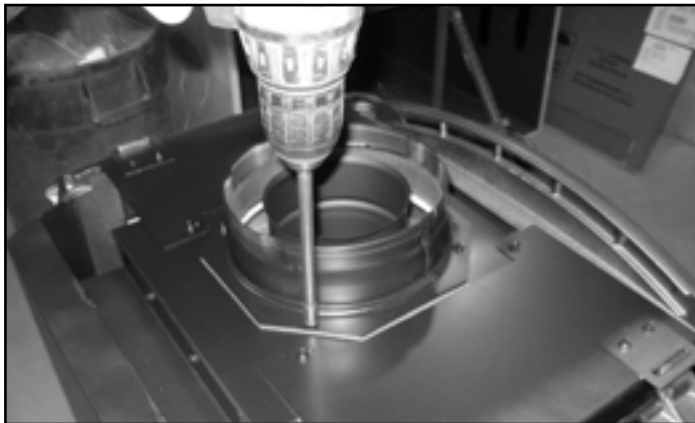

Figure 2.
2. Remove starting collar and gasket by removing 4 screws. See Figure 2. Save the screws. (If gasket breaks, apply high-temp sealant to bottom of collar before installing as shown in Figure 8.)
6. Place rear access plate and gasket over top vent and attach with the four screws removed in Figure 2.